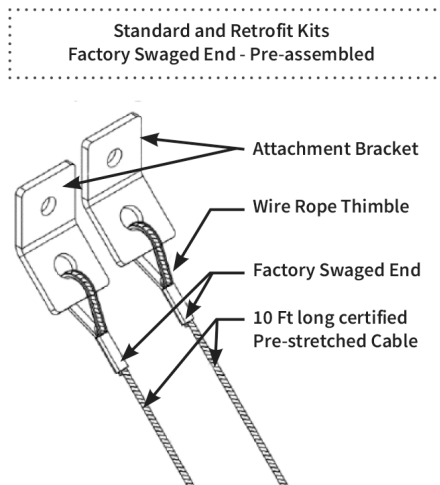

Fig 1.
- 2 sets of 10' long Certified Pre-stretched 7x19 Galvanized Aircraft Cables, one end is Factory Swaged and Pre-assembled with Attachment Bracket and wire rope thimble (Fig. 1)